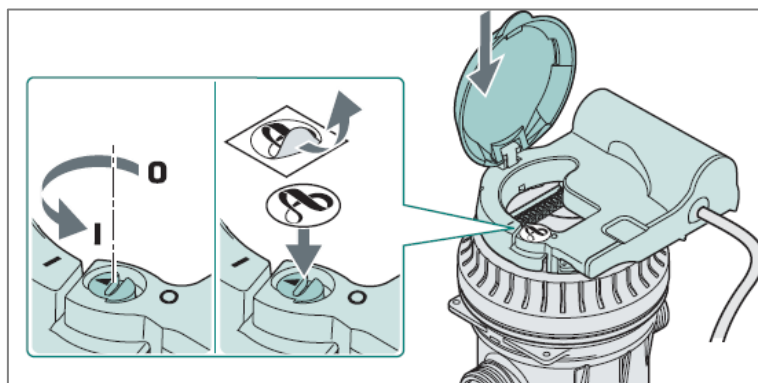

fig.7
- A screw tightens and loosens the ring on the meter (fig.7). This system secures the assembly while making it possible to remove the ring without damaging the hooks.